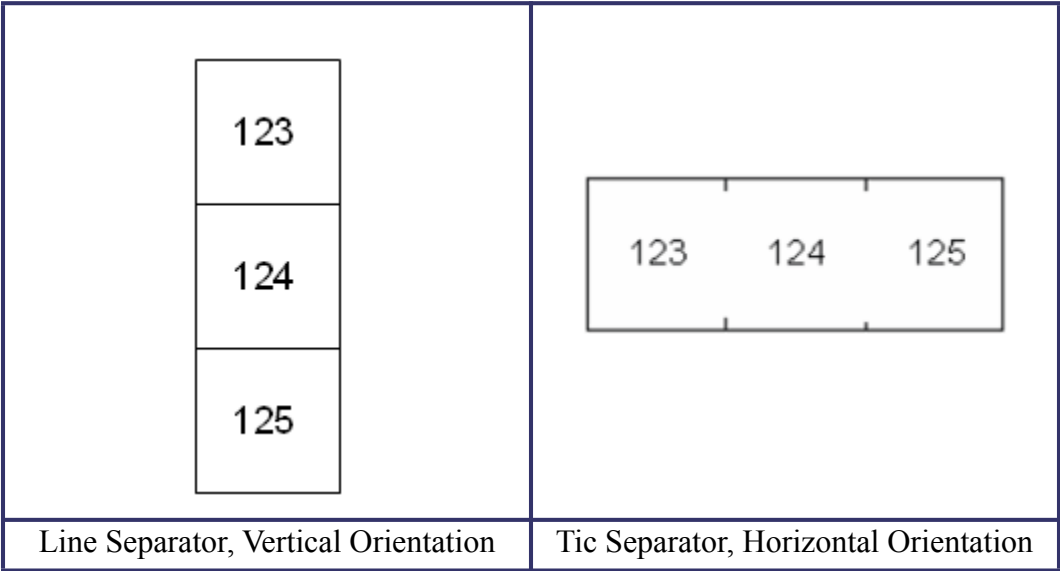

Figure 35 • Separators and Orientation
**Note:** Depending on the media and label type in use, the Multi-print dialog box may display the option to define a separator (tic or line). See Figure 35 on page 91 for a description of tic and line separators.